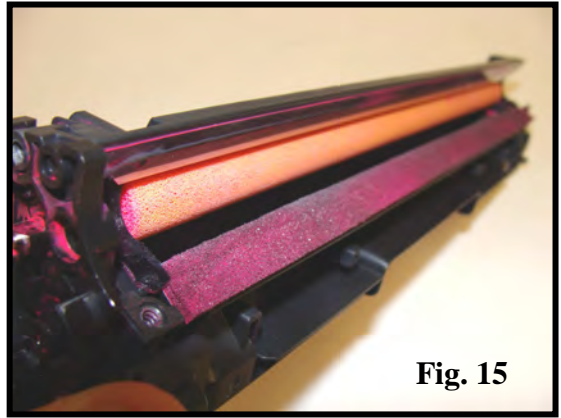

Fig. 15
15. Use compressed air to remove all remaining toner from the hopper. Clean the foam feed roller thoroughly of all residual toner (Fig. 15).